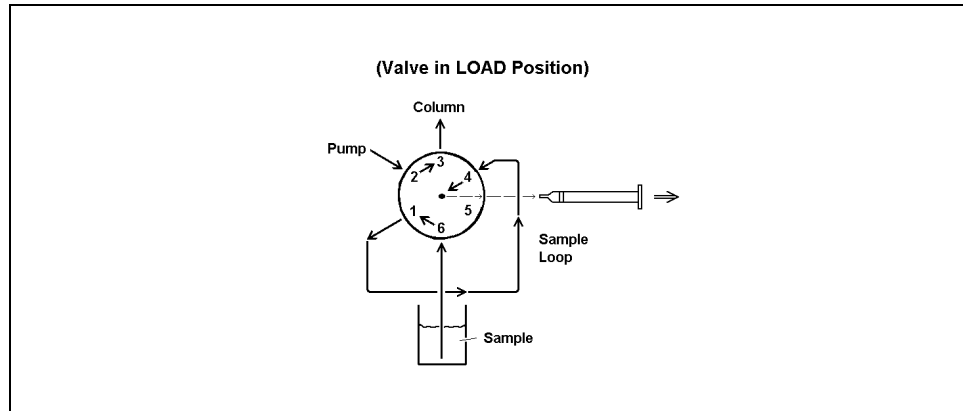

Figure 3-2. Drawing Sample Through the Waste Line
- b. Insert the syringe into the needle port on the valve and place the valve waste line (port 6) into the sample container (see Figure 3-2).